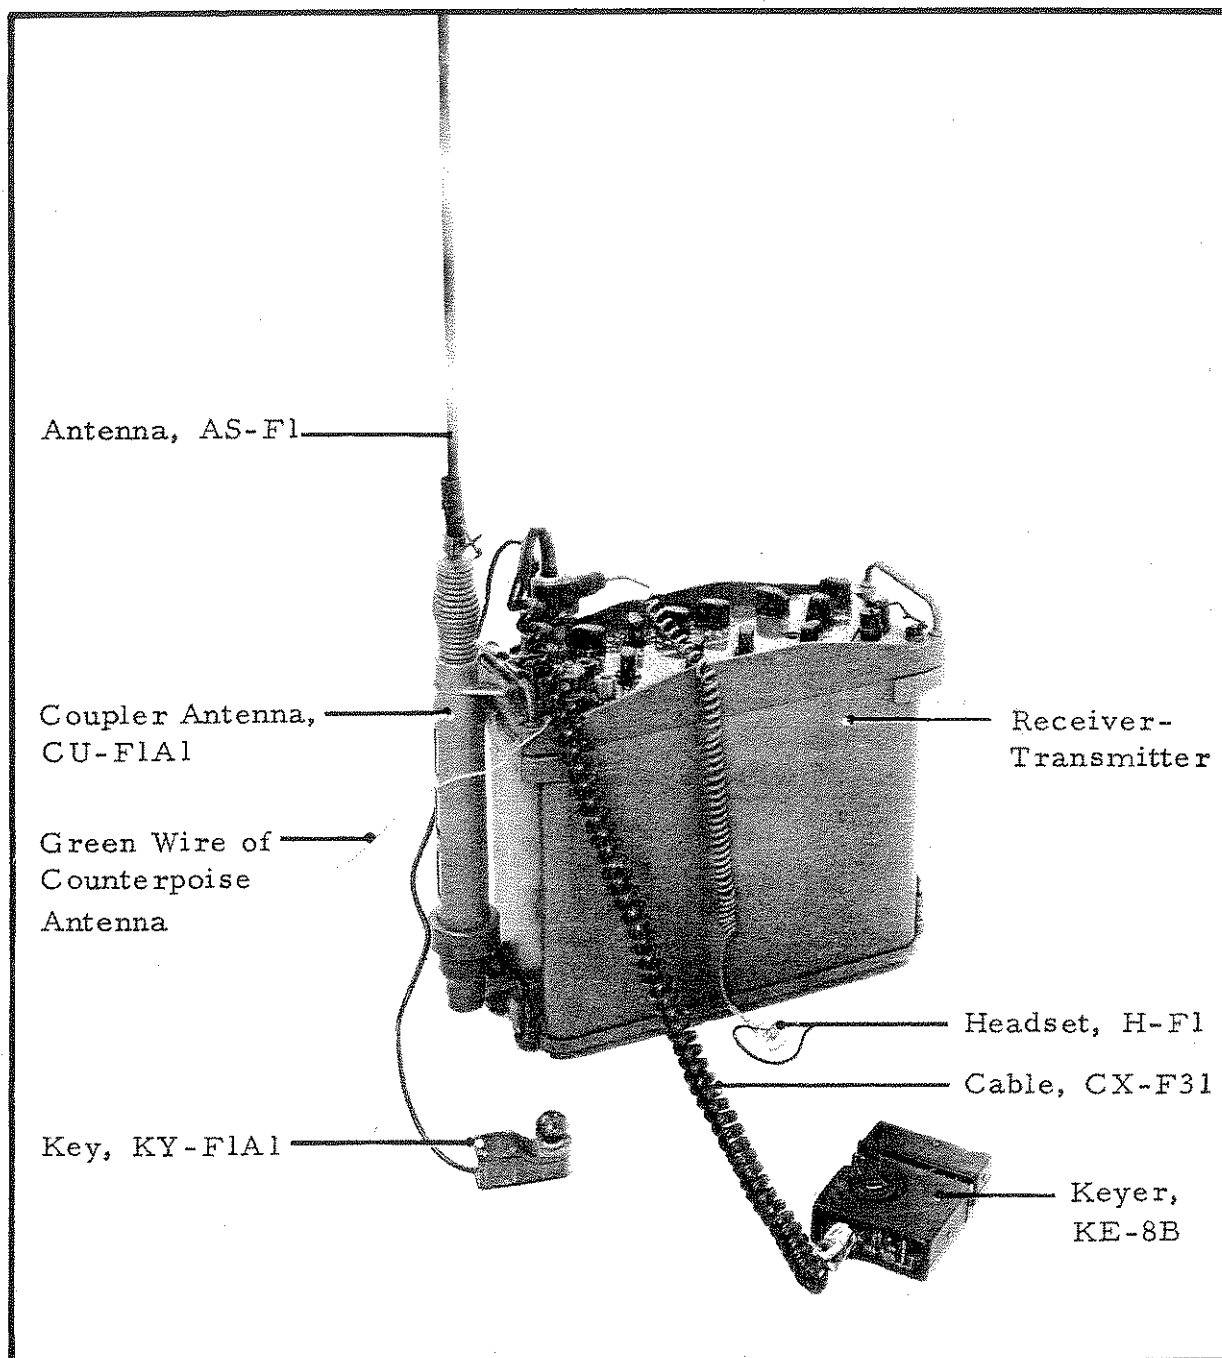

FIG 33
- a. Antenna, AS-F1 (whip) for short range ground wave communications. Some increase in range can be achieved by the use of a good earth connection or the Counterpoise Antenna. A Radio Set PRC-F3 set up as a temporary ground station using Antenna, AS-F1 and prepared for high speed burst keying is illustrated in Fig 33 and Fig 40.